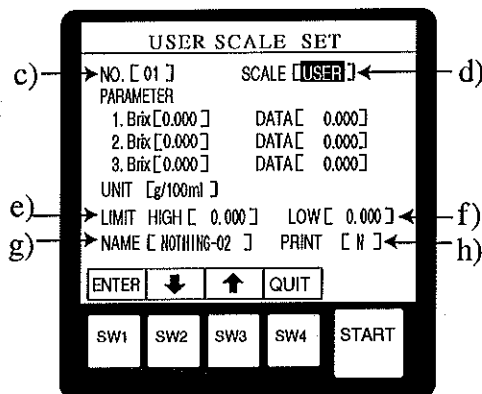

Fig.13-2
- The SCALE [USER] should be blinking(Fig.13-2). Using the SW2(↓) or SW3(↑) key, adjust to either [Brix] or [RI] and press the SW1(ENTER) key.